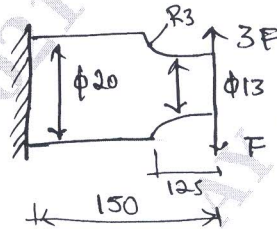

Fig.Q4(b)
- b. A cantilever beam made of cold drawn carbon steel ($\sigma_a = 550\text{MPa}$; $\sigma_1 = 275\text{MPa}$) of circular cross-section is subject to load which varies from $-F$ to $3F$. Determine the maximum load that this member can withstand for infinite life using FOS 2. (Refer Fig.Q4(b)).